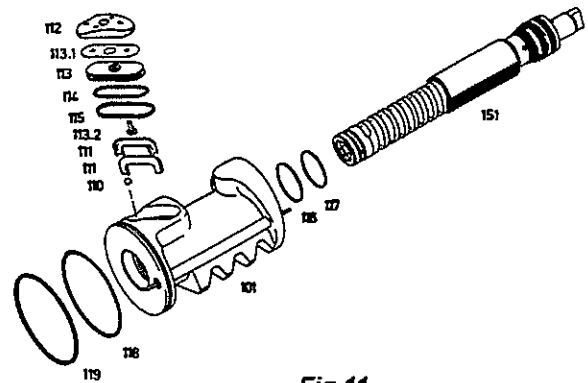

Fig.11
7.2 Remove gasket/plug (112) complete with compensating plate (113.1), gasket (113), sealing elements (114 and 115), pin (113.2) and recirculating half tubes (111) (**Fig.11**).